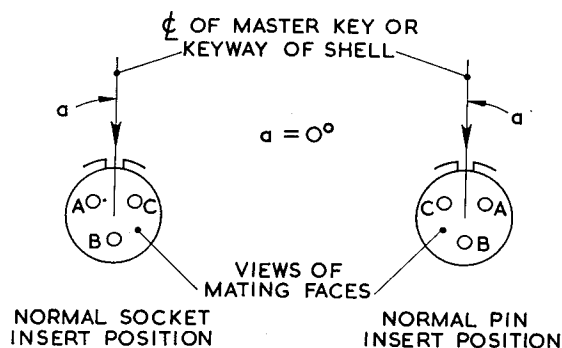
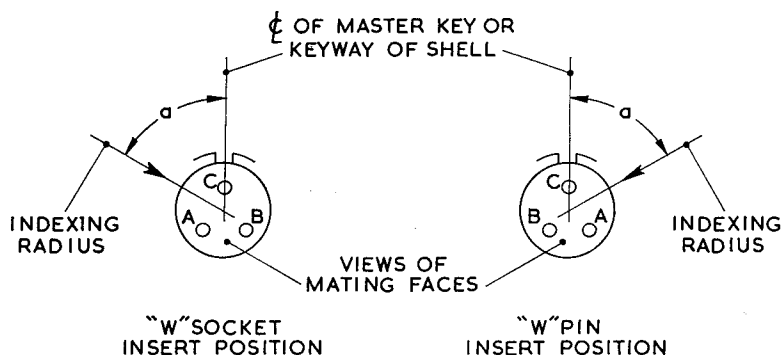

Fig. 2. Normal position of insert
Fig. 3. Orientated position of insert
5. In the normal position the indexing radius coincides with the centre line of the master key or keyway, see fig. 2. When ordering the normal position no suffix letter is required in the part number. For alternative positions the pin type insert is rotated a number of degrees clockwise relative to the centre line of the master key or keyway of the shell as indicated in fig. 3. Similarly the socket type insert is rotated a number of degrees counter-clockwise.